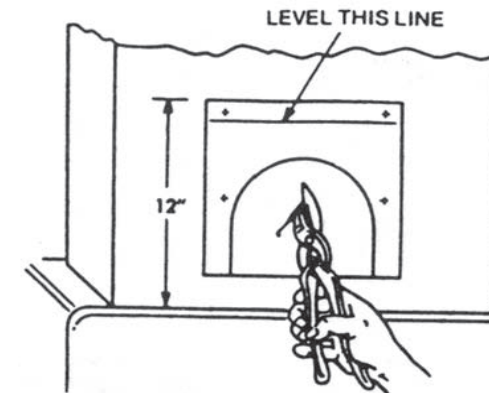

Figure 2
3. Center punch the four (4) holes as indicated for model being installed, and drill 1/8" holes. Using a heavy screw driver or chisel and hammer, slash starting hole in the center of cutting line on template. Insert shears and cut to line and follow outline for opening. Remove remainder of template. (See Figure 2.)